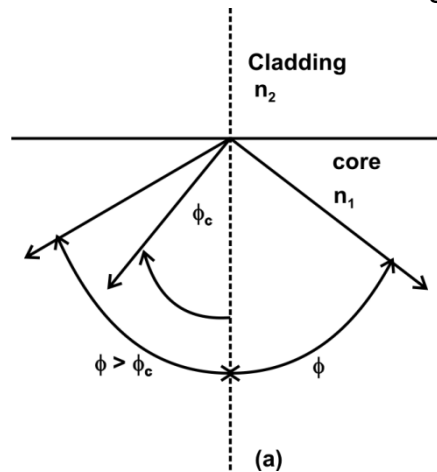

Fig. 14.2: Reflection from the inside of the core wall
5. The reflected light will leave the fibre wall at the same angle as it had struck the wall before reflection. This can be seen from figure 14.2.